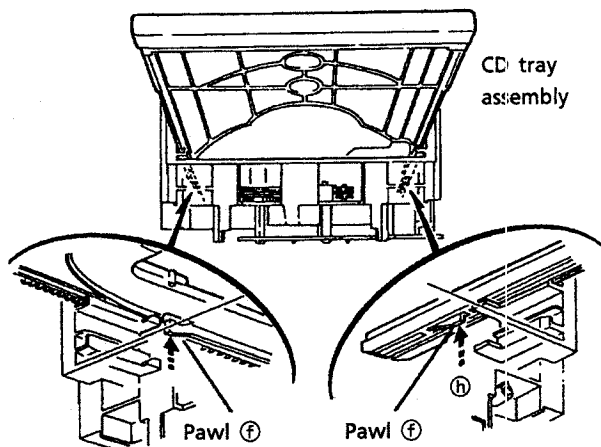

Fig. 27
14. Press 2 pawls (f, f') located rear side of the CD tray ass'y according to an arrow ⑪ to remove the CD tray ass'y. (See Fig. 27.)